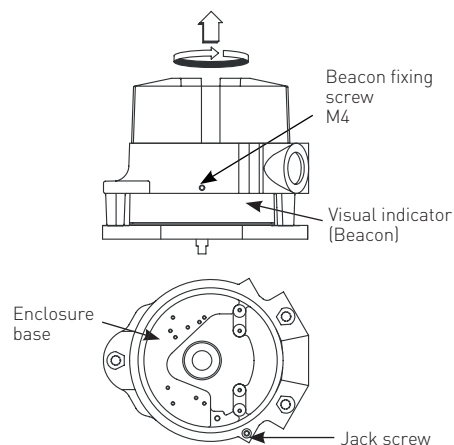

Figure 1 - Standard enclosure
**2.4** Unscrew the cover (Figure 1 / 2) and keep in a safe place. Ensure that the Jack screw (M4 socket head cap screw) remains in the housing (Figure 1 / 2).
Loosen the beacon fixing screw see Figure 1 / 2, rotate beacon window (outer beacon) to indicate appropriate open or closed text as corresponding to actuator position.